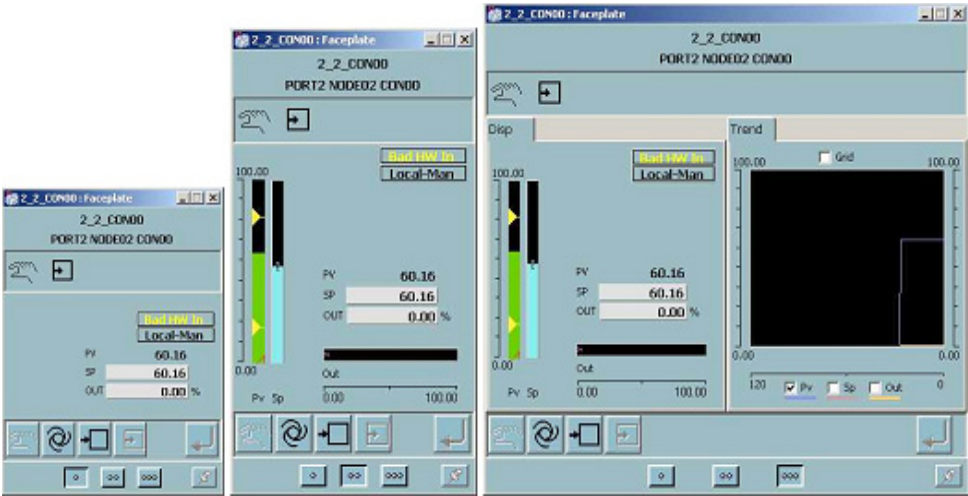

Figure 208. XCON Module
**External Control (XCON).** The External Controller module faceplate represents a PID controller in a Micro DCI loop controller via a CIO board. The XCON module allows plant operators to monitor and control MICRO-DCI controllers from an 800xA for DCI operator station. Each XCON module provides space for storing the major PID control parameters associated with one loop of a MICRO-DCI controller in a CIO database module used for display in the faceplate. Figure 208 shows the